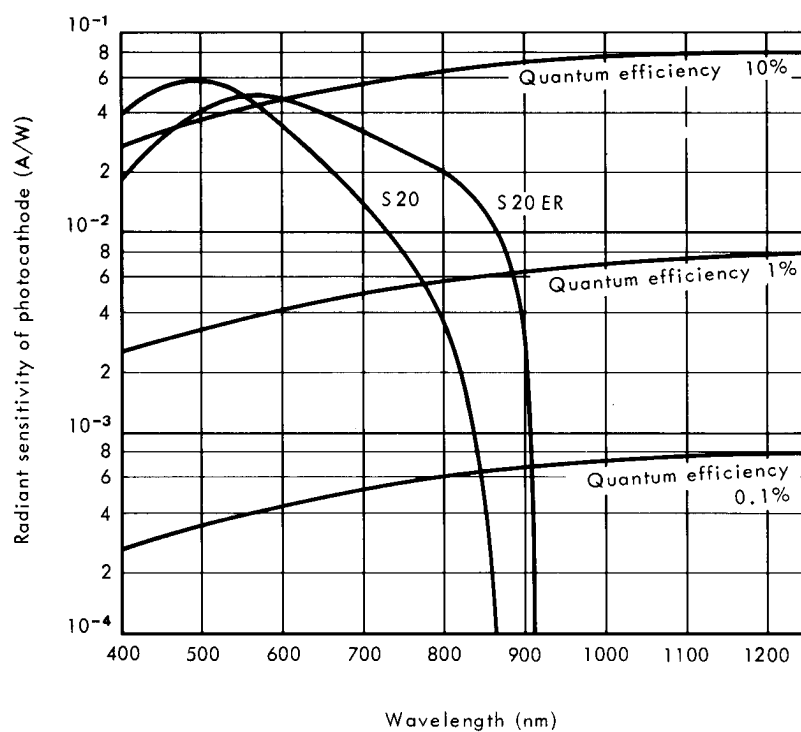

Figure 2
- 5 - The tube should not be operated at light levels higher than those given in curves of the fig. 2.